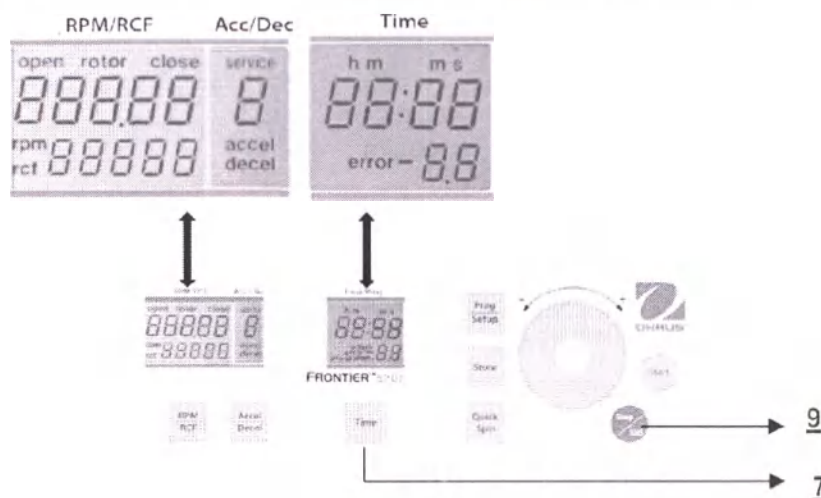

Fig. 27
While the centrifuge is turned off, press simultaneously the keys **"Time"** (7) and **"Stop/Lid"** (9) and turn on the main switch of the centrifuge. Now release both keys and as a result a display test is executed for approx. 5 seconds. All indicators will appear at the same time (See figure 27).